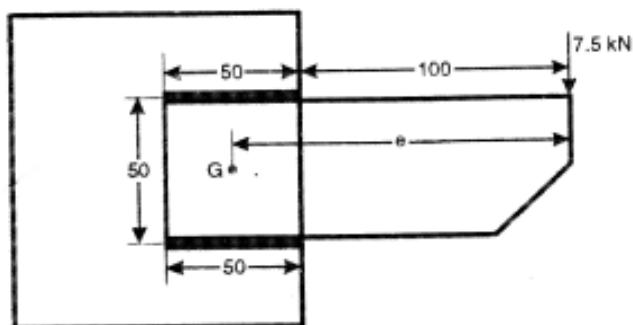

Fig. 1
- b) A welded connection as shown in Fig. 1 is subjected to an eccentric load of 7.5 kN. Determine the size of welds if permissible shear stress for weld is 100 N/mm2. 8